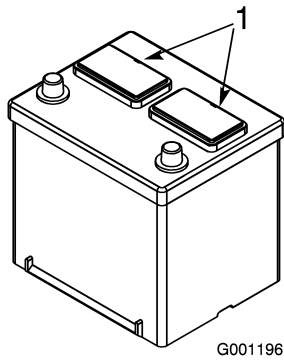

Figure 8
2. Clean the top of the battery and remove the vent caps (Figure 8).